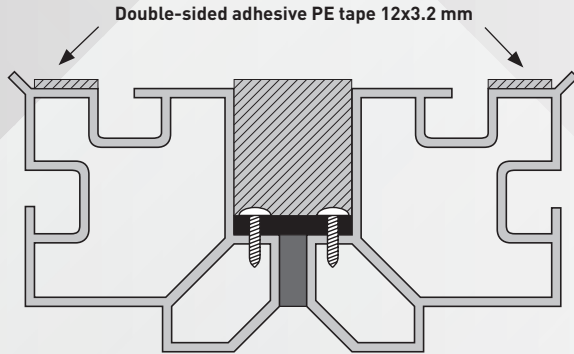

Figure 13 Insulating the seam
- Apply the double-sided adhesive PE tape along the slanted edges to the corner posts (see figure 13).